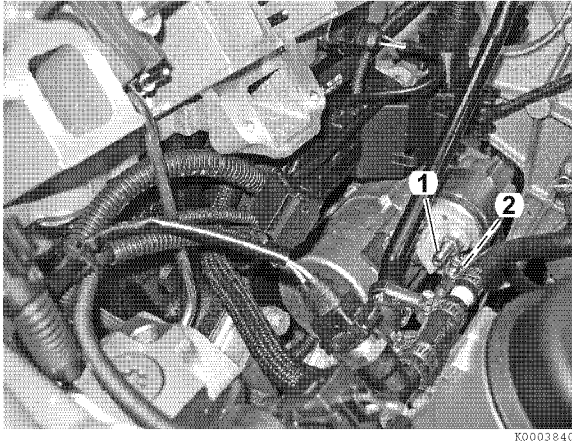

Figure 10-2
3. Disconnect positive (+) cable (1, **Figure 10-2**) and primary wire (2, **Figure 10-2**).